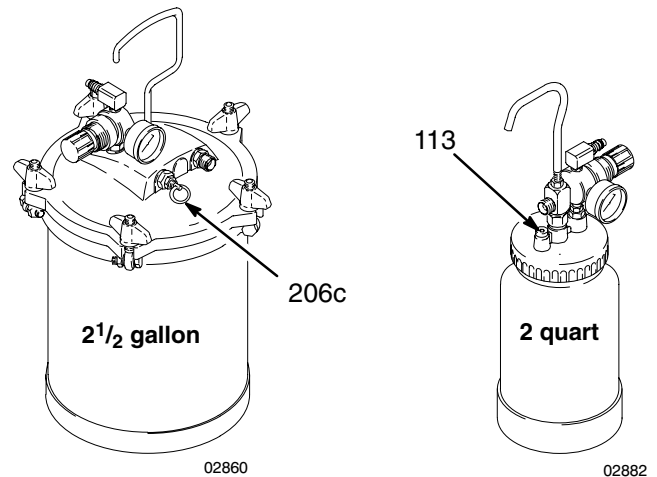

Fig. 6
- a. Turn off air supply to pressure pot. See Fig. 6.